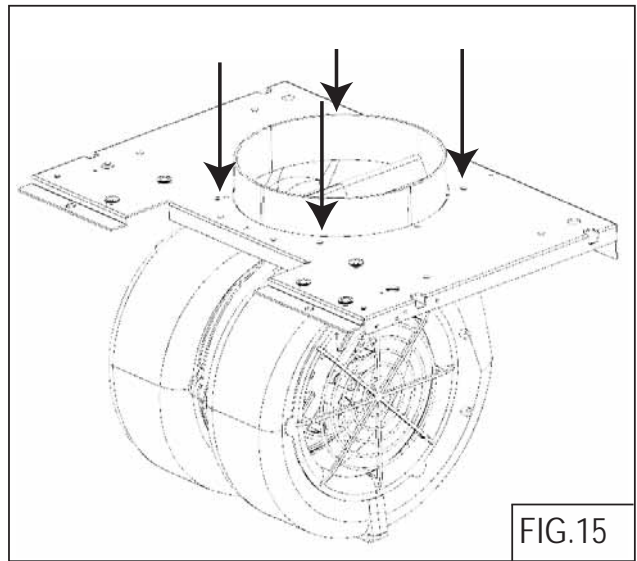

FIG.15
3. Attach internal blower plate to CBI blower by (4) M4 x 16 mm screws provided with CBI blower. FIG. 15